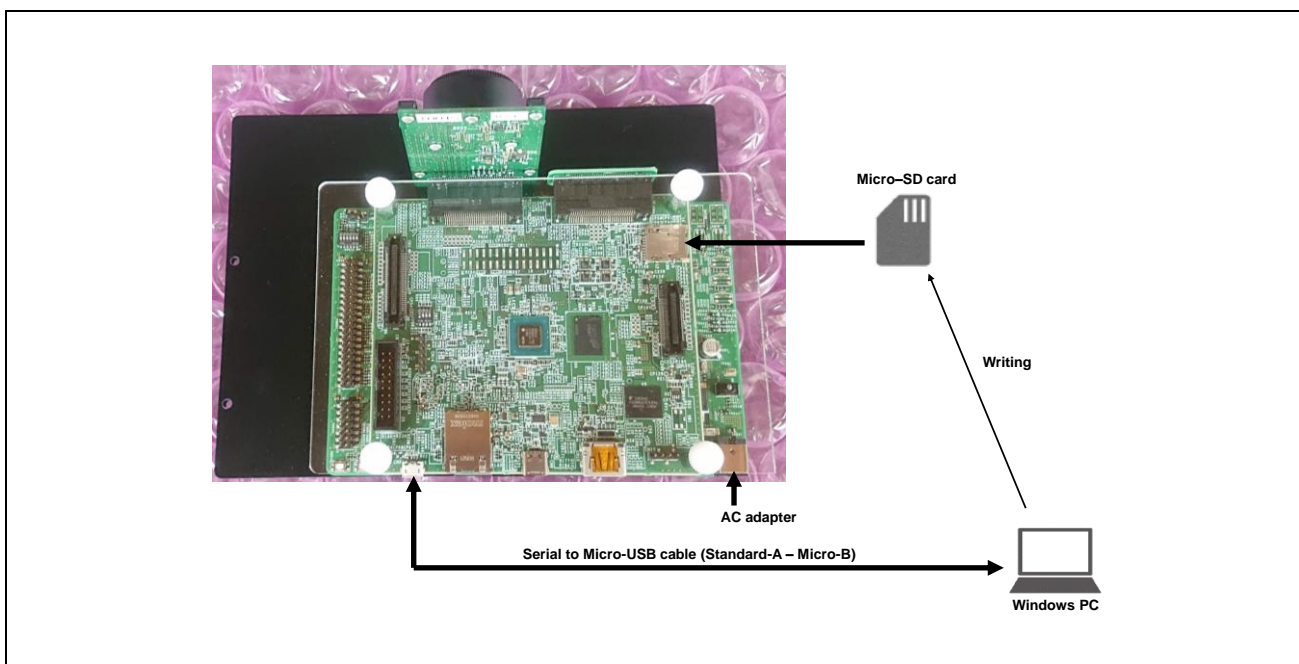

Figure 2.1-1 Connection Method
**Table 2.1-1** lists the recommended environment for V2MEVK operation and **Figure 2.1-1** shows the connection method.